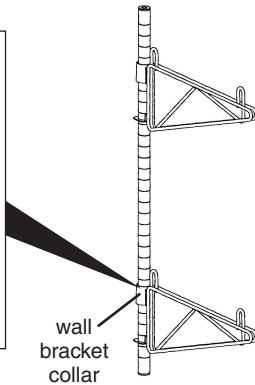

figure 4
- Slide wall bracket collar (see *figure 4*) over top of post and down onto plastic split sleeve. Repeat for each bracket.